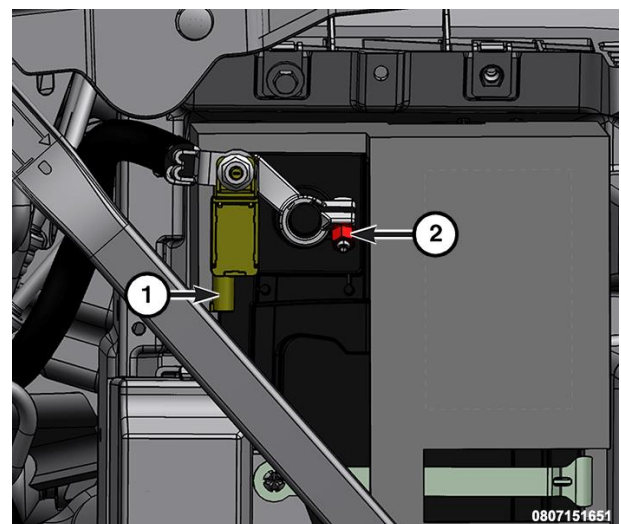

Figure 19 – IBS Connector
2. Disconnect the Intelligent Battery Sensor (IBS) wire harness connector (1) (Figure 19).